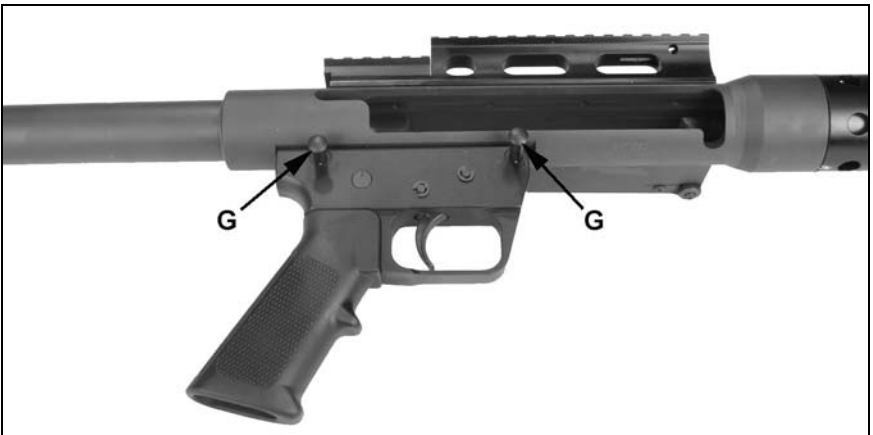

Figure 31
1. Install upper to trigger group and insert pins (G). See figure 31.